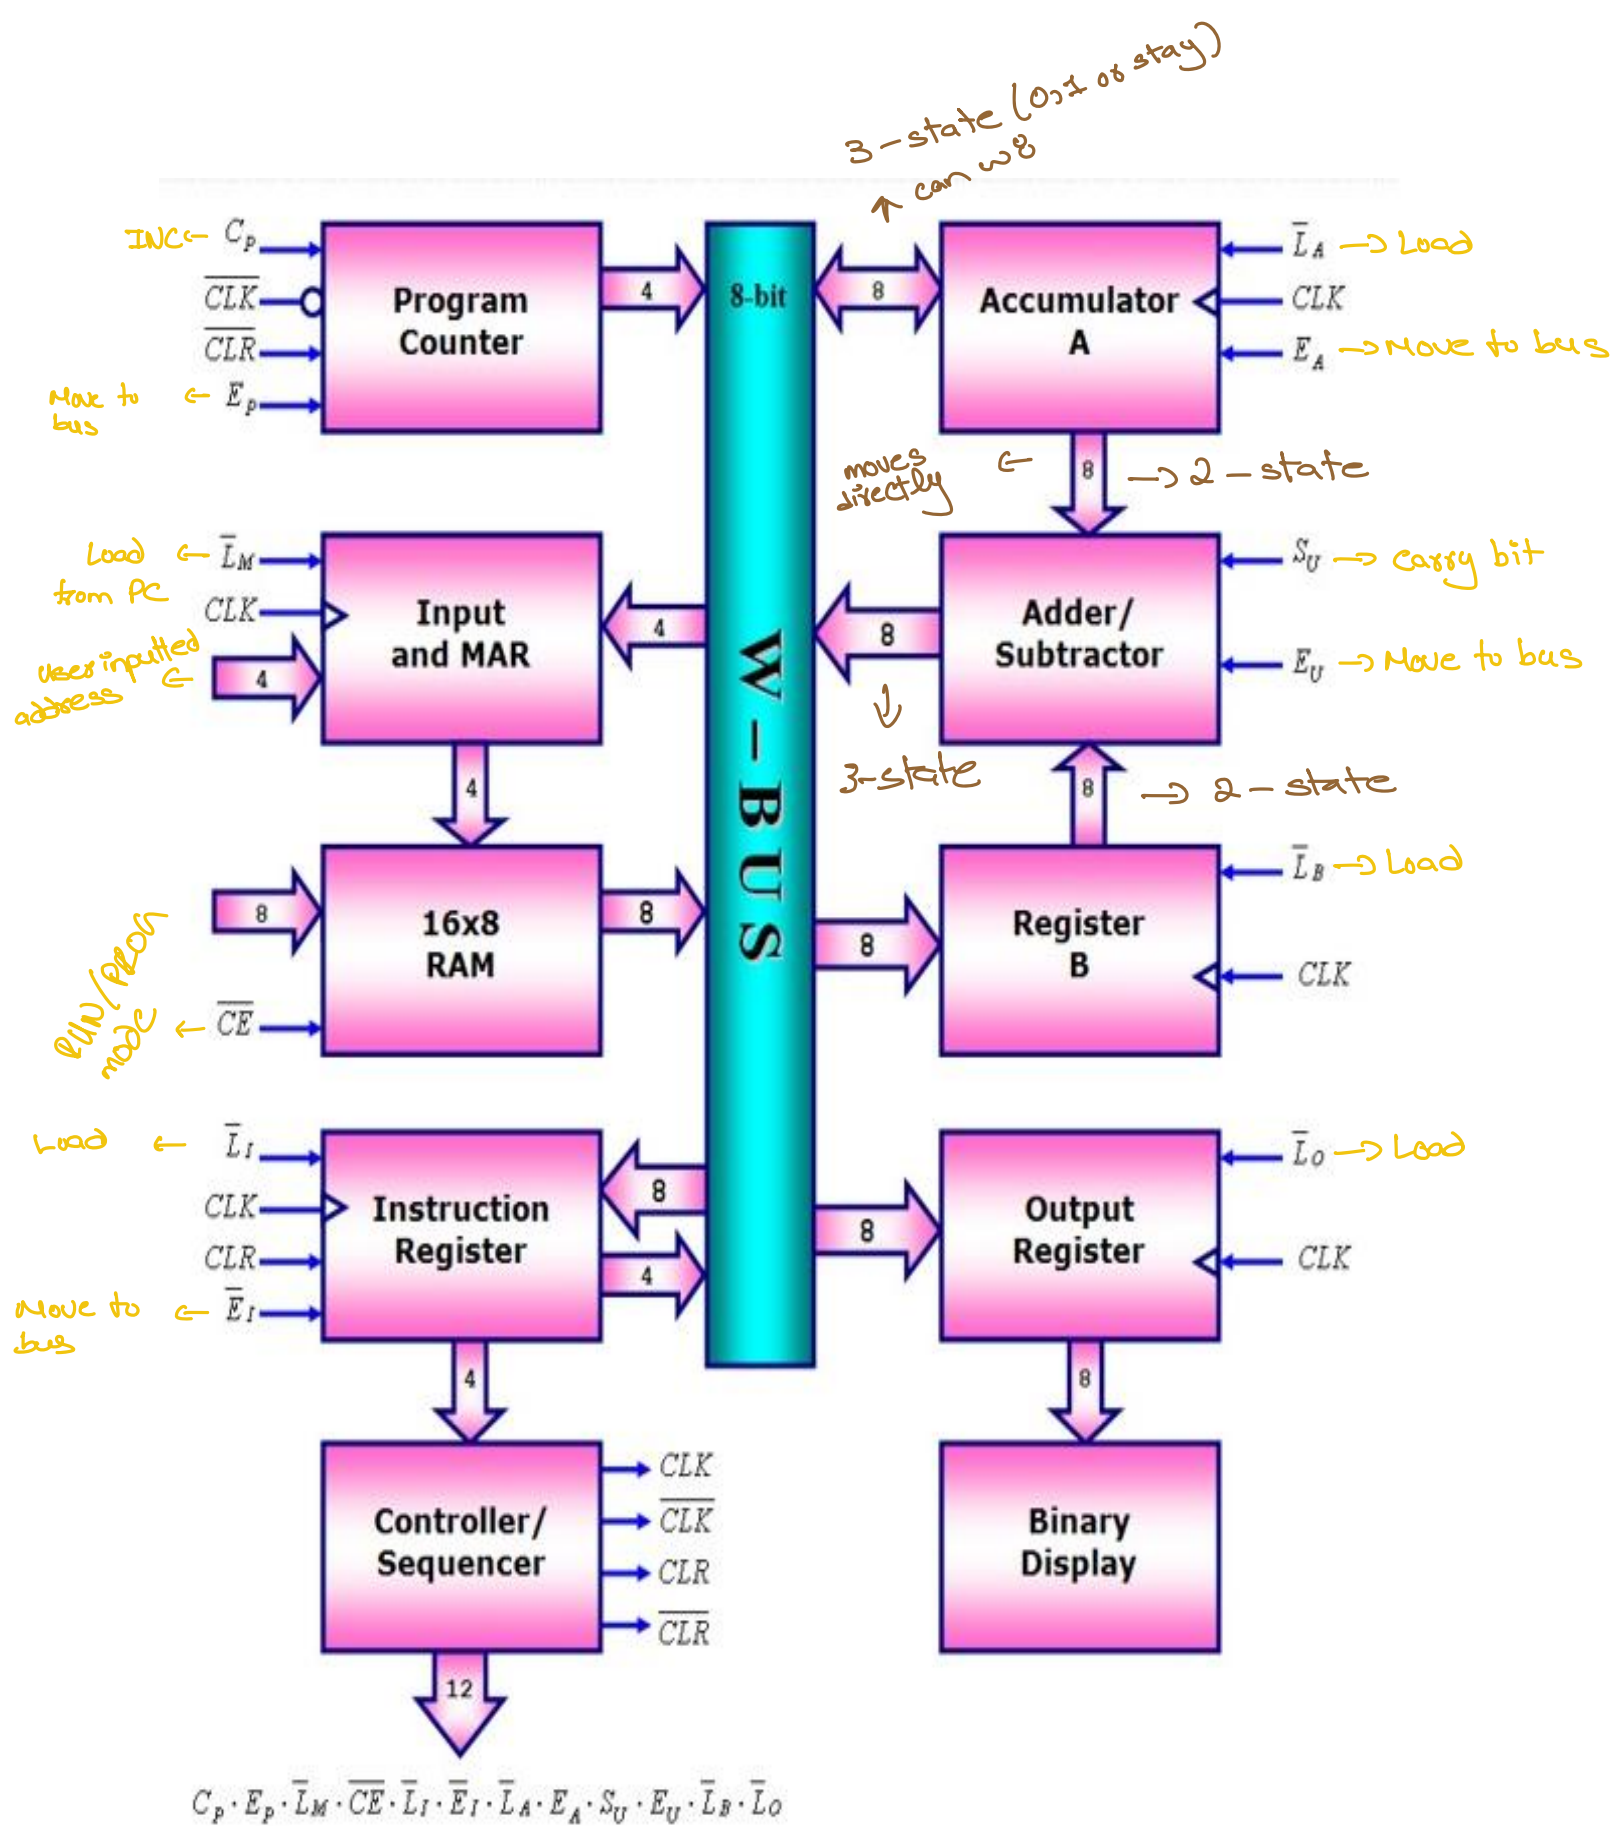

Figure 1-1: Architecture for SAP – 1 Computer
Figure 1-1 shows the architecture of SAP-1 i.e. a bus-organized computer.
All register outputs to the 8 bit W-bus are three states; this allows orderly transfer of data. All other register outputs are of two state; these outputs continuously drive the boxes they are connected to. The layout of Fig. 1-1 emphasizes on the registers used in SAP- 1. For this reason, no attempt has been made to keep all control circuits in one block called the control unit, all input-output circuits in another block called the I/O unit, etc.
1. The accumulator (A) is a buffer register that stores intermediate answers during a program execution. In Fig. 1-1, the accumulator has two outputs.